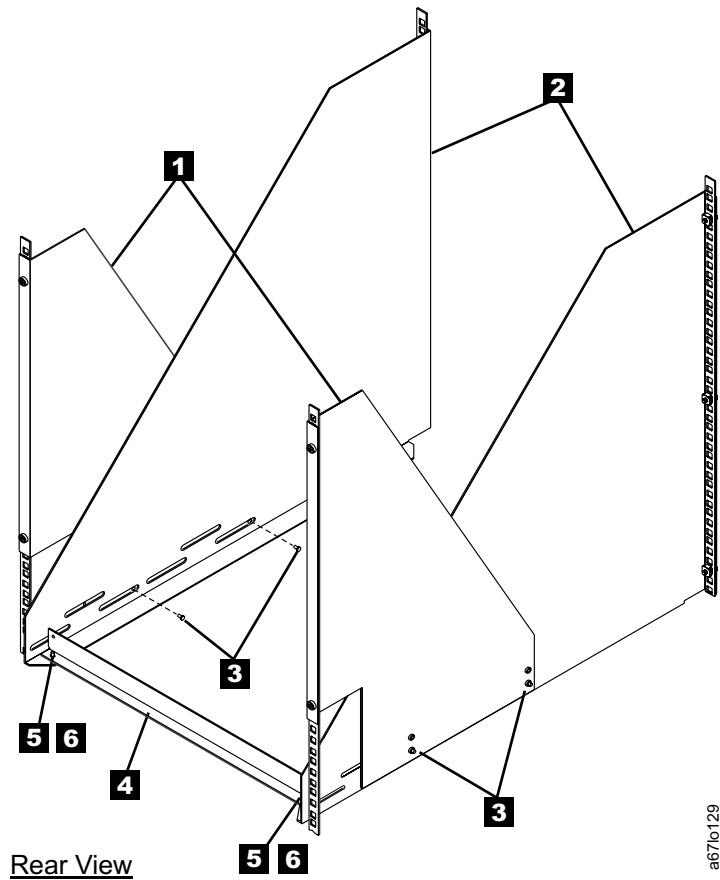

Figure 20. Installing the rear stop bracket
11. Attach the front mounting brackets (see **2** in Figure 20) to the rear mounting brackets **1** by placing four screws **3** through the slots, two on each side. Secure the brackets loosely by tightening the screws.